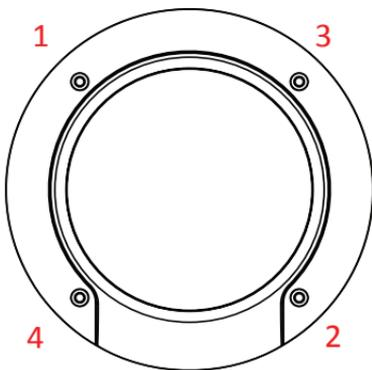

Figure 2
- Once you have finalized your adjustments, reassemble the dome cover by reinstalling the four bolts with the provided L-wrench. To maintain IP66 weatherproofing, make sure to securely tighten the bolts so that there is little to no gap between the dome cover and dome base. For an easier installation, tighten the screws by using a crisscross screw pattern as shown in *Figure 2*.
- Reassemble the dome cover by reinstalling the four bolts with the provided L-wrench. To maintain IP66 weatherproofing, make sure to securely tighten the bolts so that there is little to no gap between the dome cover and dome base. For an easier installation, tighten the screws by using a crisscross screw pattern as shown in *Figure 2*.